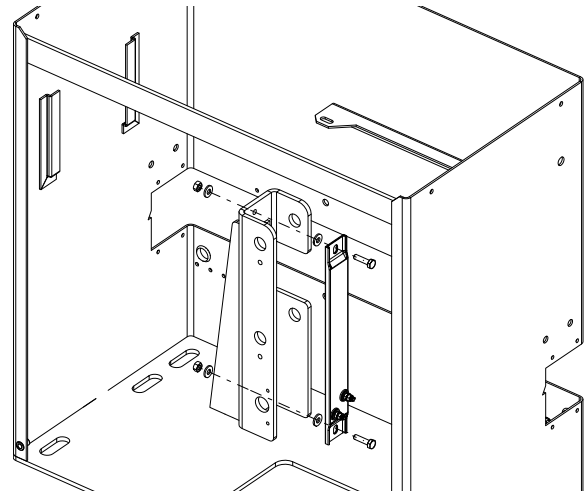

Figure 7. Install Heater Strip
10. Install the heater strip vertically in the drive post with the terminals down and facing out with the ¼-20 x 1 in bolts (Figure 7).